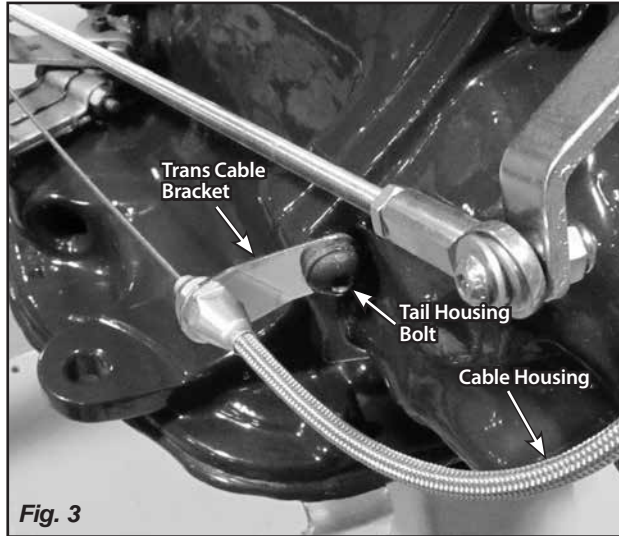

Fig. 3
Step 2: Remove the lower left tail housing bolt from the transmission. Install the trans cable bracket and the cable housing onto the tail housing bolt, and reinstall onto the transmission as shown in Fig. 3.